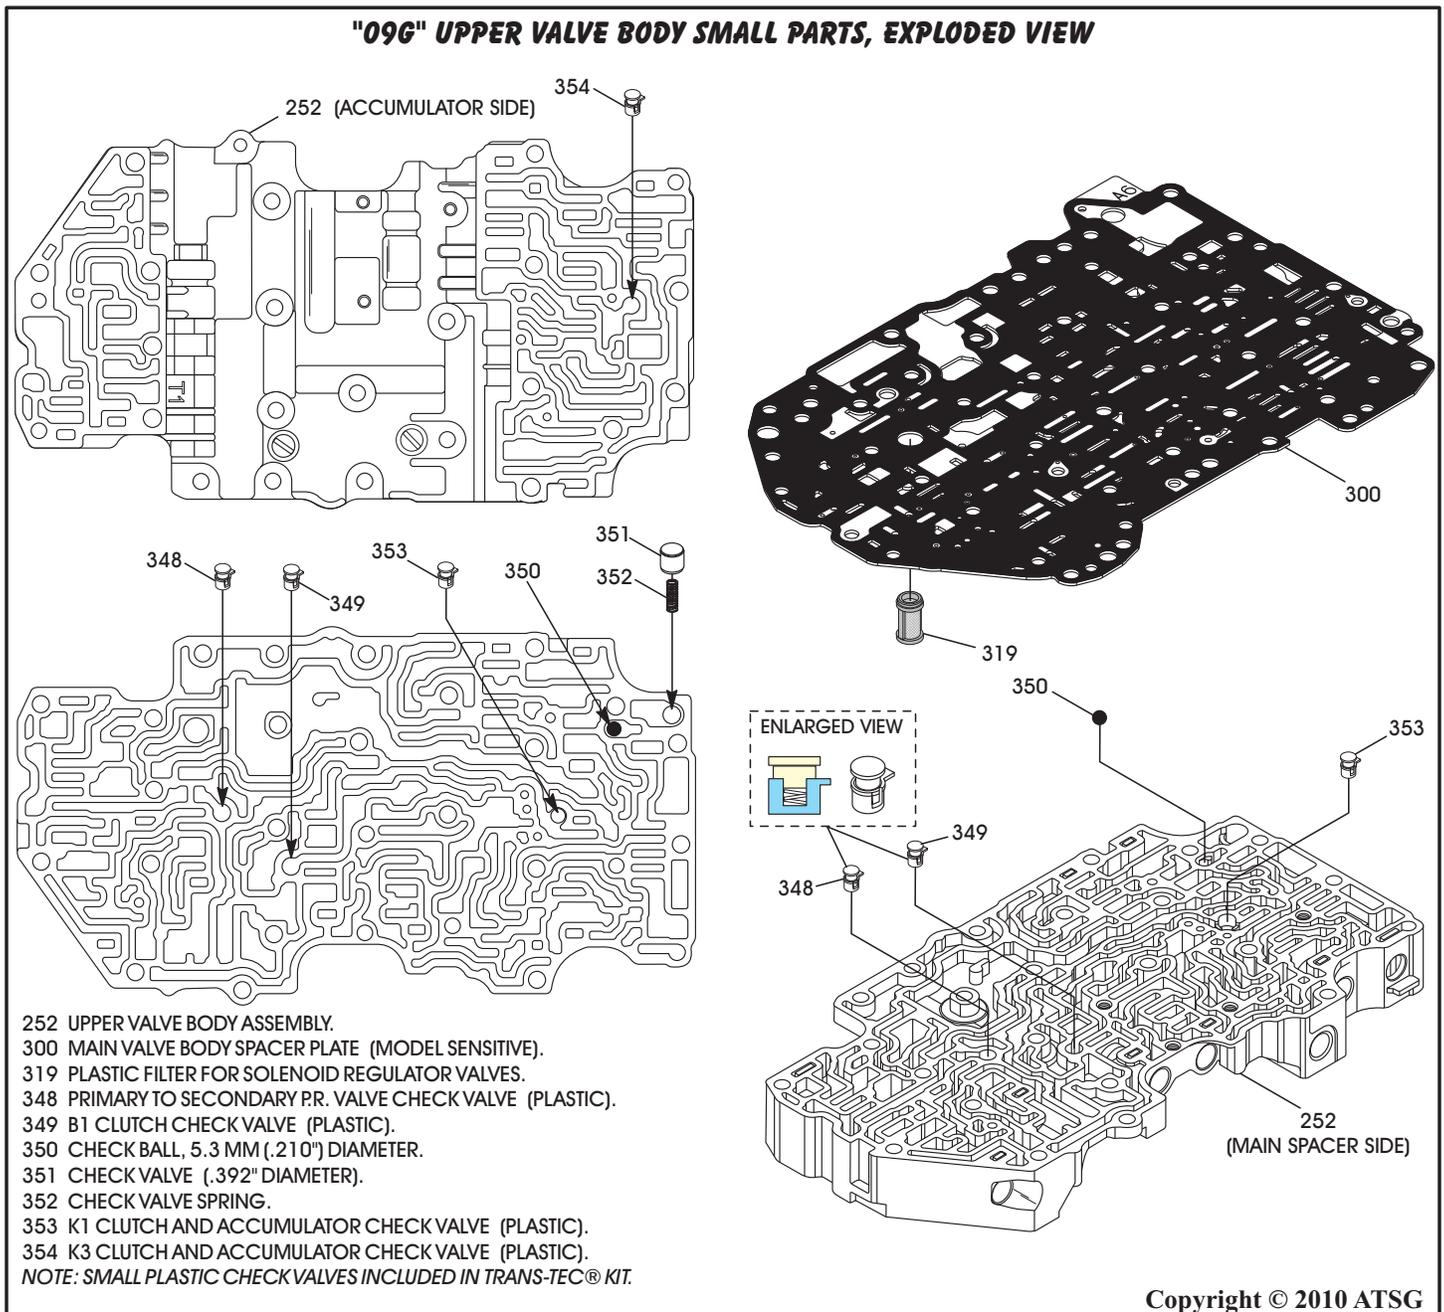

Figure 153
9. Disassemble upper valve body and place valves, springs and retainers on appropriate trays exactly as they were removed, as shown in Figure 152. Small parts are shown in Figure 153.
13. Install the worm track small parts into the upper valve body exactly as shown in Figure 153.
Note: VW check valve diameters are provided in Figure 153 legend. Spring specs are not provided as they vary by model.